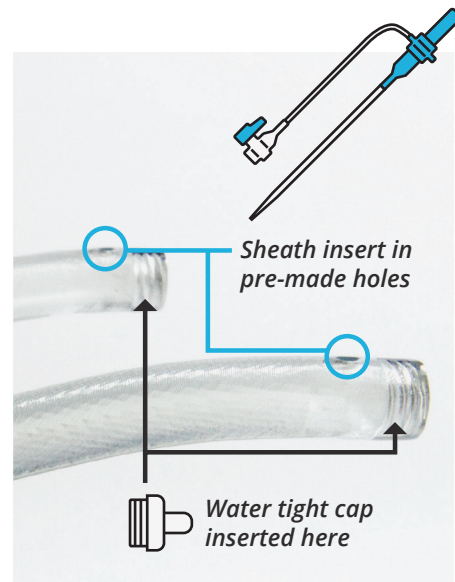

Fig. 2
- 2 While keeping the model inverted screw in the plastic plugs into the end of the model to avoid water leak. (Fig. 2)
- 3 Insert a 6Fr sheath into the pre-made holes. (Fig. 2)